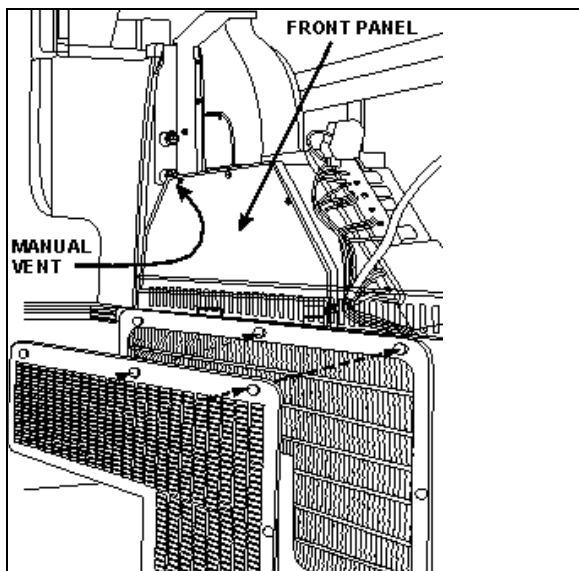
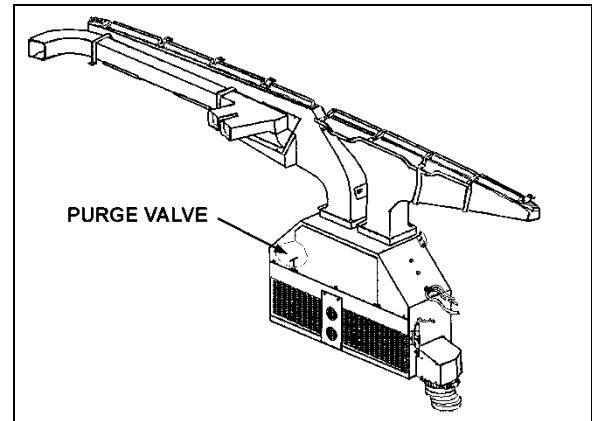
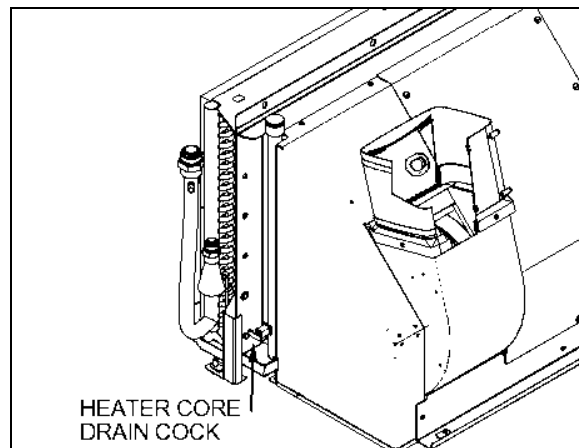

FIGURE 73: DRIVER'S HVAC/DEFROST UNIT
FIGURE 74: DRIVER'S UNIT AIR MIXING BOX 22171PV
FIGURE 79: HEATER CORE DRAIN COCK LOCATION
Fresh air is taken from behind the R.H. side headlights assembly (H3 series) or from a plenum underneath the front service compartment (X3 Series) and enters the mixing box through a ON/OFF damper. Return air is taken through the right console into the mixing box (Figure 74). Mixed air goes through cooling and heating coils, fans and discharge ducts.
4. From inside of vehicle, remove the two finishing panels in front of unit. Remove the three screws fixing the unit front panel. Open the purge valve located inside the driver's unit (Figure 74). If present, open the manual vent located inside the HVAC unit, on the driver's side (Figure 73) to ensure an efficient draining.
4. Open drain cock in bottom of heater core (Figure 79) you can unfasten a hose connection on top of heater core in order to allow air to enter while draining. The main heater core drain cock is located in the evaporator compartment. To access the valve, open baggage compartment door located in front of the evaporator compartment (L.H. side). Open the evaporator compartment access panel.
Whenever the heating system has been drained and refilled, or the system has run low on coolant and coolant has been added, it is necessary to bleed air from heating system. Locate the purge valve illustrated in Figure 74 & Figure 79, and open them momentarily until no air escapes from the lines. If present, open the manual vent located inside the HVAC unit, on the driver's side (Figure 73).